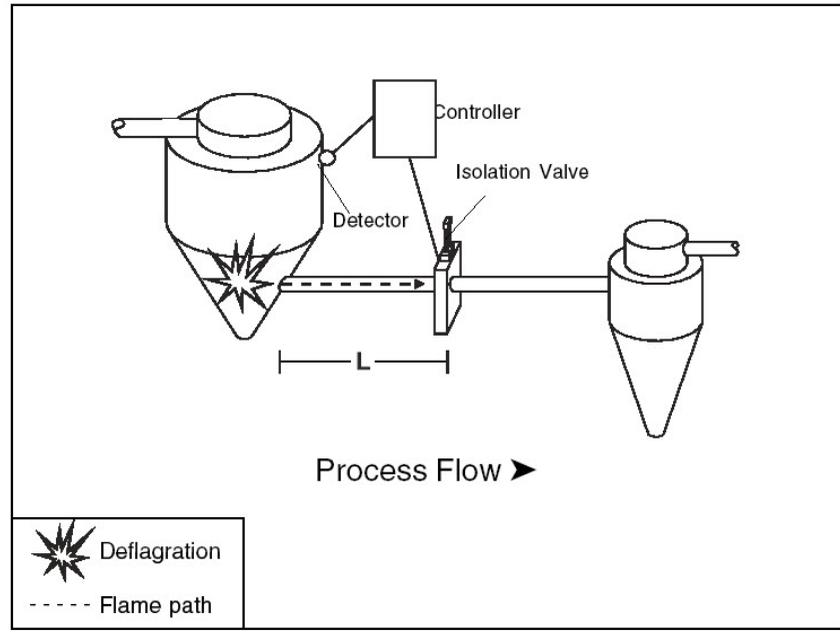

Figure 3: Typical engineered system component placement
- Minimal distance required from ignition point (see figure 3)